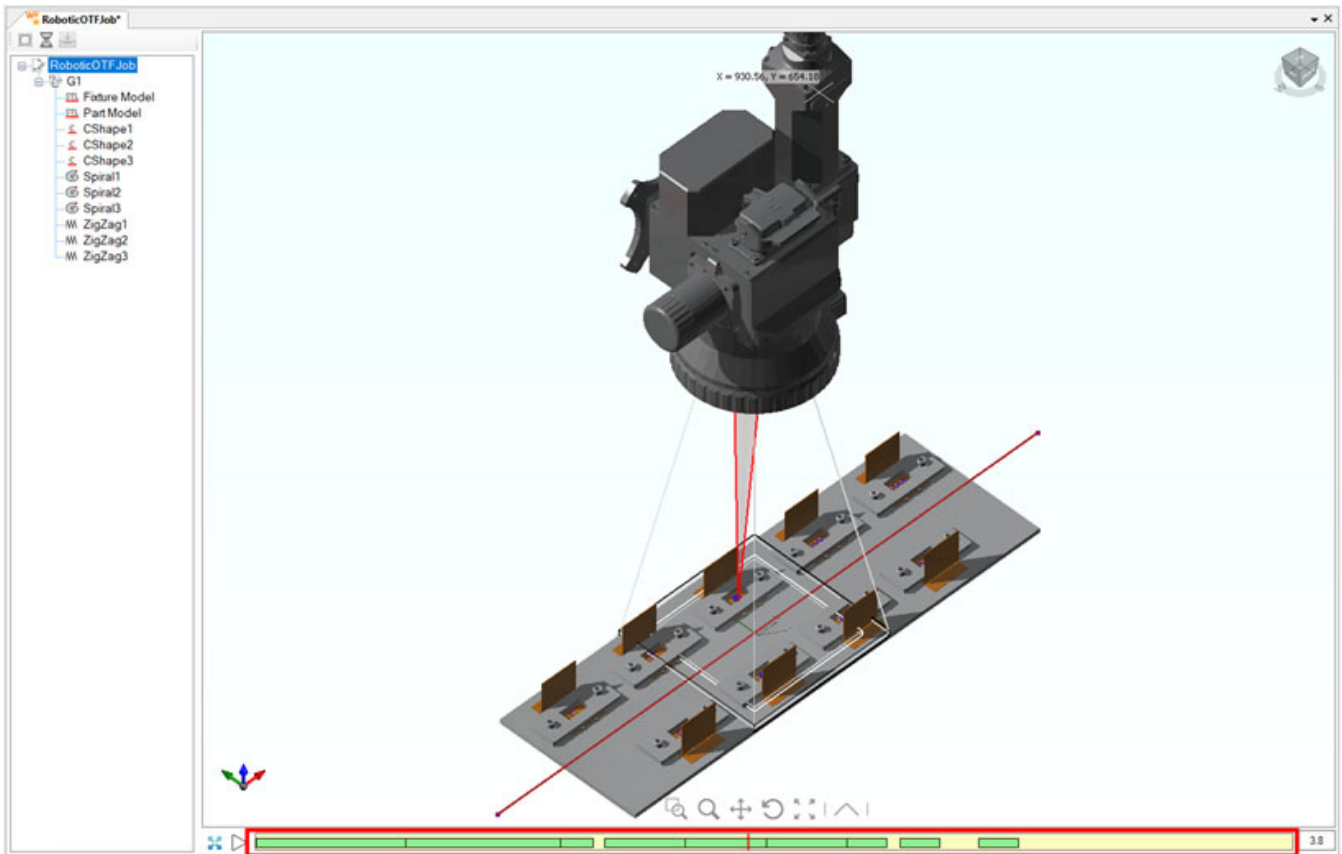

Figure 242: Projection Volume in an On-The-Fly Job
- Robotic OTF Job Type - A simulated robot trajectory or a real robot trajectory must be loaded into the job in order to preview the beam path. When either of these types of trajectories are loaded, users can scrub along the basic timeline to view the beam trajectory. Please refer to section "Simulated Trajectory" for details on creating a simulated trajectory. See Figure 242 (below).